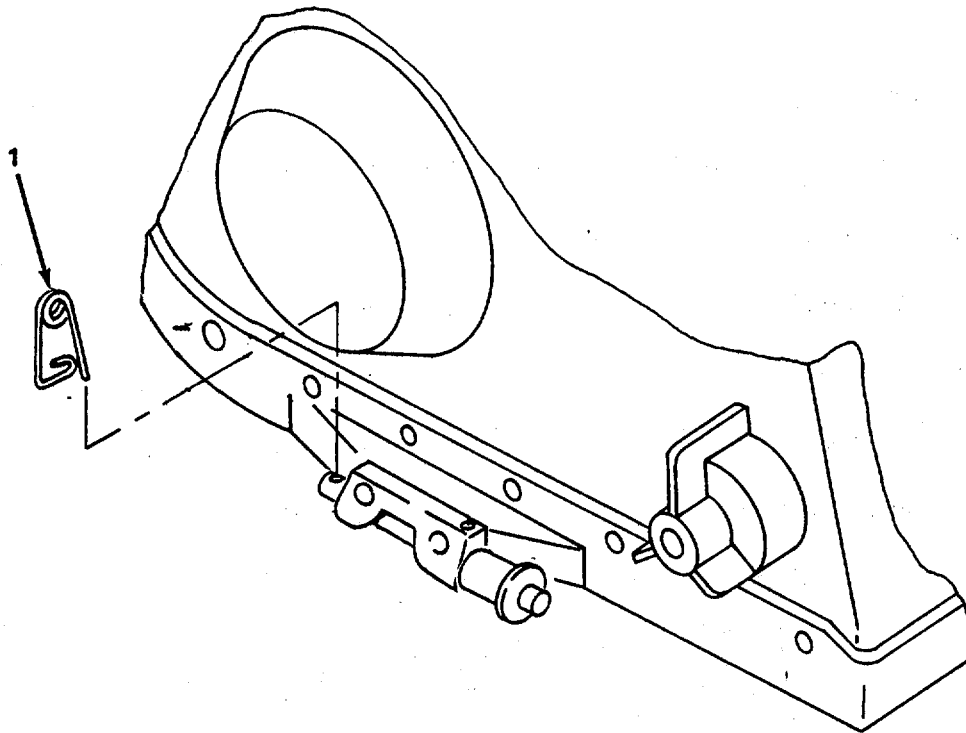

Figure 4-23. Safety Pin, Replace.
(3) *Replace safety pin.* (figure 4-23)